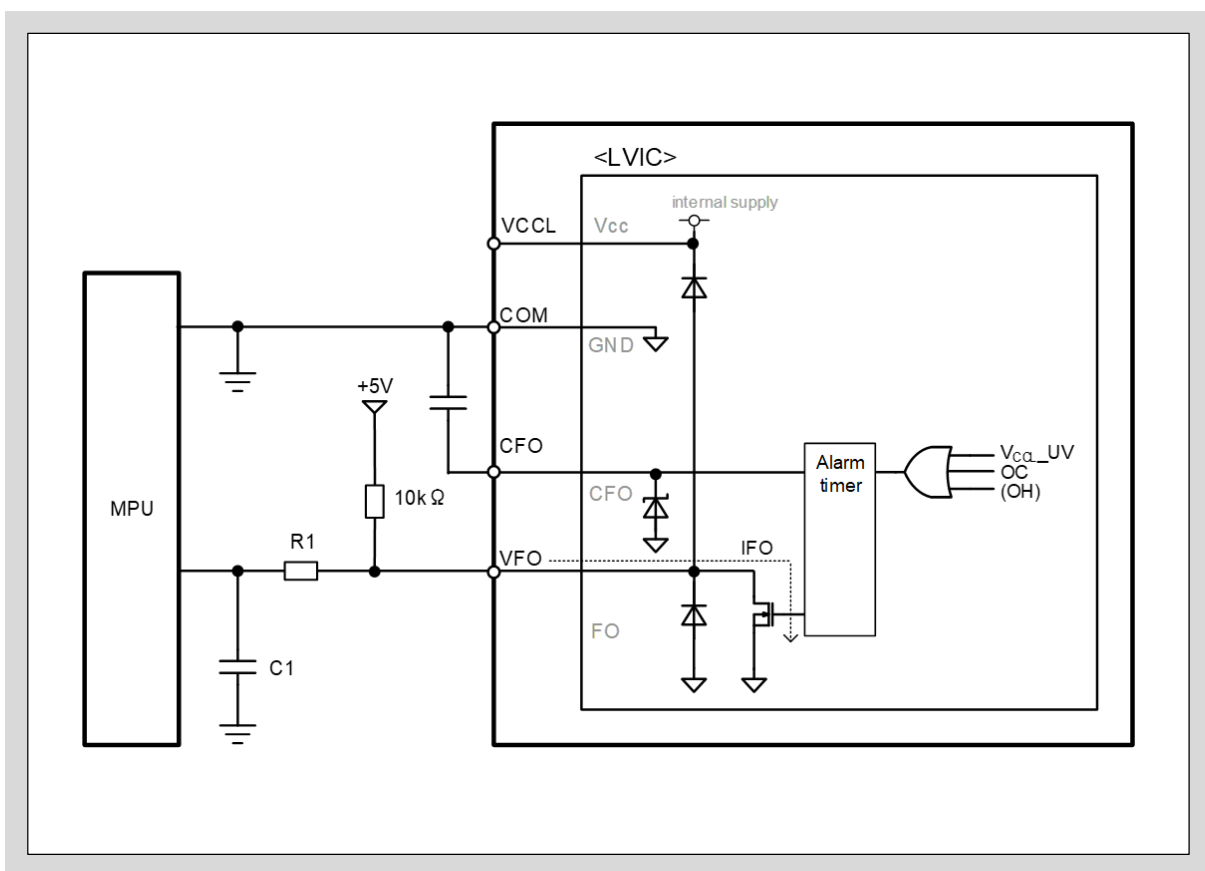

Fig. 3-21 Recommended MPU I/O interface circuit of VFO terminal
- As shown in Fig. 3-21, it is possible to connect the fault status output terminal VFO directly to the MPU.
- As shown in Fig. 3-21, diodes are connected between VCCL-VFO and VFO-COM terminals. These diodes are built-in to protect the product from input surge voltage. Do not use these diodes for voltage clamp purpose as it might damage the product.